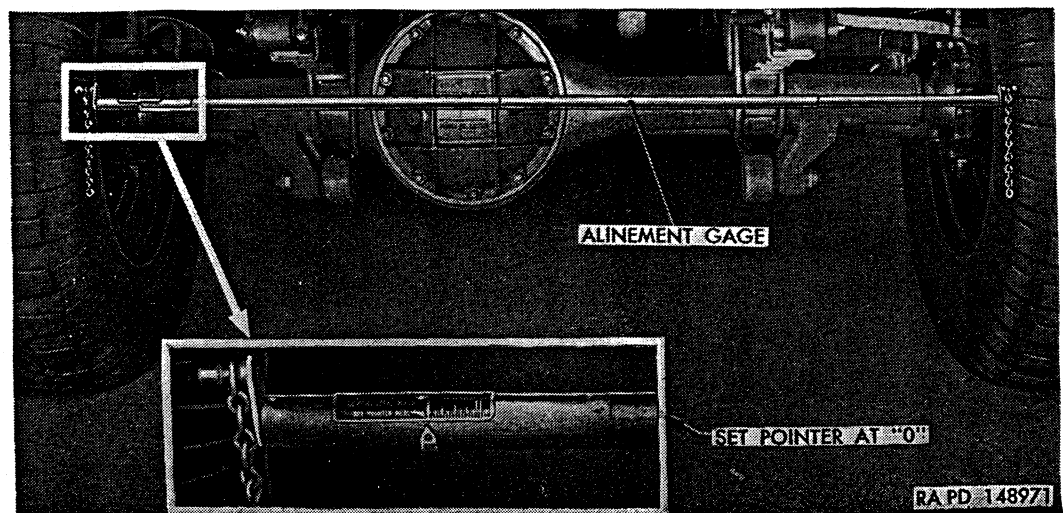

Figure 228. Checking toe-in.
*a. Toe-In Check* (fig. 228). Inflate tires to correct pressure (par. 258*b*) and check for proper wheel bearing adjustment (par. 265*a*); then position vehicle with the wheels in straightahead position. Place a toe-in wheel alinement gage between the wheels ahead of the axle at hub height with the ends of the gage bearing against the tire side walls and with ends of both pendant chains an equal distance from ground. Set gage so pointer registers zero. Remove gage and place at same relative position at rear of tire and with ends of pendant chains same distance from ground as at front. The pointer will indicate the amount of toe-in or toe-out. Correct toe-in is  $\frac{5}{32}$  to  $\frac{7}{32}$  inch.